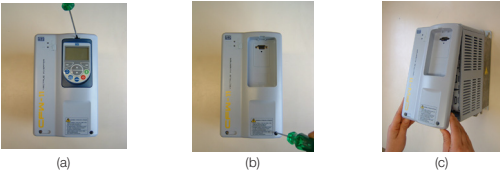

Figure 2: Removal of front cover
- Step 1:** With the inverter powered off, remove the frontal cover of the inverter (Figure 2).